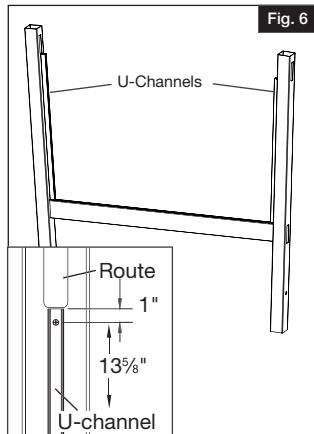

Fig. 6
- Pre-drill 5 holes with a $\frac{1}{16}$ " drill bit, spacing out holes as shown (Fig. 6).